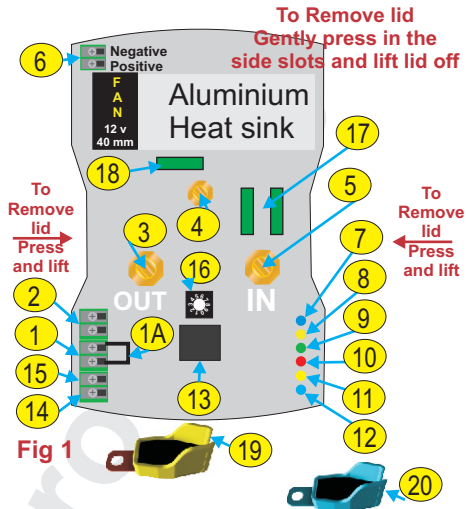

Fig 1
Battery type selection - this is simple to do, simply remove the lid exposing the rotary switch (number 16 on Fig 1). Look closely for the small arrow to indicate what position it is pointing at. On start up the top blue (number 7 on fig 1) LED will flash x number of times to indicate the setting. E.g. 4 flashes when unit fires up every time = position 4 on the switch. If this is not the correct setting then simply rotate the knob to correct the position. Then switch the battery charger off (wait a few minutes) then back on again and the flashes will change. Ensure you have the correct number of flashes for your battery type (note: the incorrect battery setting for a few minutes will not cause any damage to your batteries). The battery type voltages are on the front label of the product and on the table over leaf.
- 5) After fan test the green LED (number 9 on fig 1) will flash 2 times indicating the battery temperature sensor is connected, and, if there is no flashes (or even the green LED on) then the temperature sensor is **not** connected and the unit will default to 20 Deg C (ambient control setting).